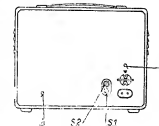

Fig. 3
The output voltage of 10 V can be reduced in steps down to 0.003 V with the switch P2. Each step can be controlled continuously with the control R. Exact setting of the required voltage is made possible by the application of the built-in V. T. voltmeter, the instrument (M) of which indicates the output on two separate scales for 10 V and 3 V. On the back wall of the apparatus are openings to make accessible further controls: the spindle of the positive feedback regulator "1" which enables the setting of a maximum output voltage of approximately 15 V, and the spindle of the hum suppressor "2" (see Fig. 3). ("1" = R14, "2" = R42, see diagram).